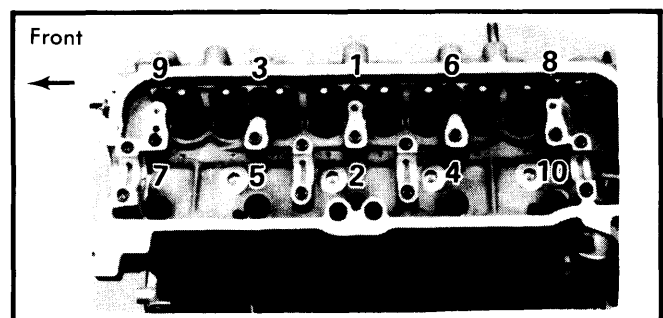

Fig. 2 Cylinder Head Tightening Sequence
5) Measure camshaft thrust clearance. Remove camshaft and distributor drive gear. Loosen cylinder head bolts in 2 or 3 steps and in sequence shown in Fig. 2. Lift head from engine.
Installation — 1) Ensure that mating surfaces are clean, then install new gasket and head. Tighten head bolts gradually in 2 or 3 steps as shown in Fig. 2.